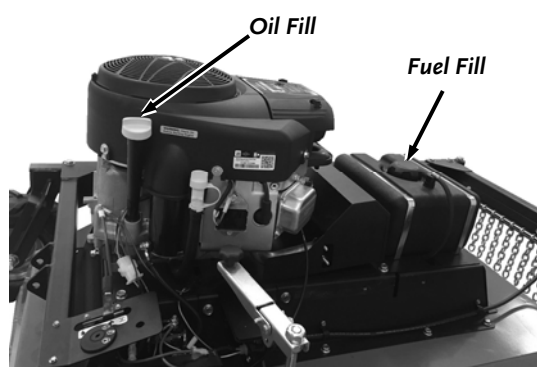

Figure 8
- Place the machine on a level surface and remove the Oil Fill Cap/Dipstick (**Figure 8**).